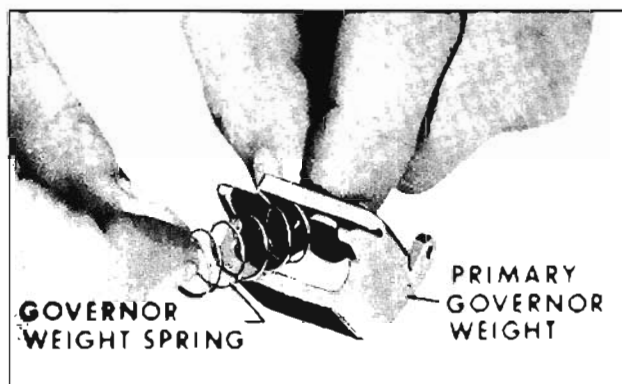

Fig. 6-377 Installing Primary Governor Weight Spring
2. Install governor weight spring into primary governor weight. (Fig. 6-377)